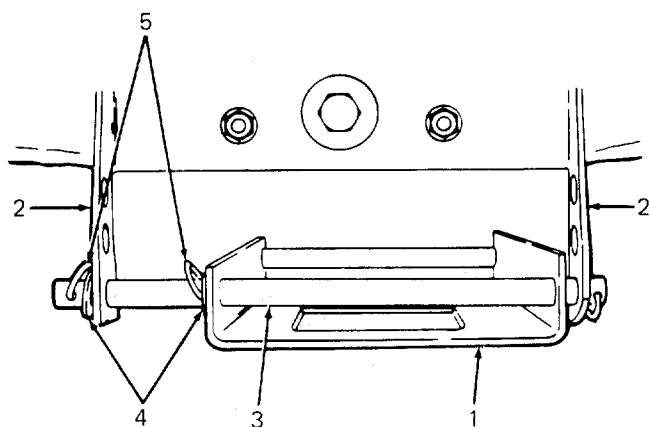

Figure 37
- Turn the front wheels to the left as far as possible. Remove the front hanger bracket assembly from the front hanger bracket as follows: Remove two hairpin cotters on right side of tractor hanger rod and slide rod out to the left. (Refer to Figure 37.)